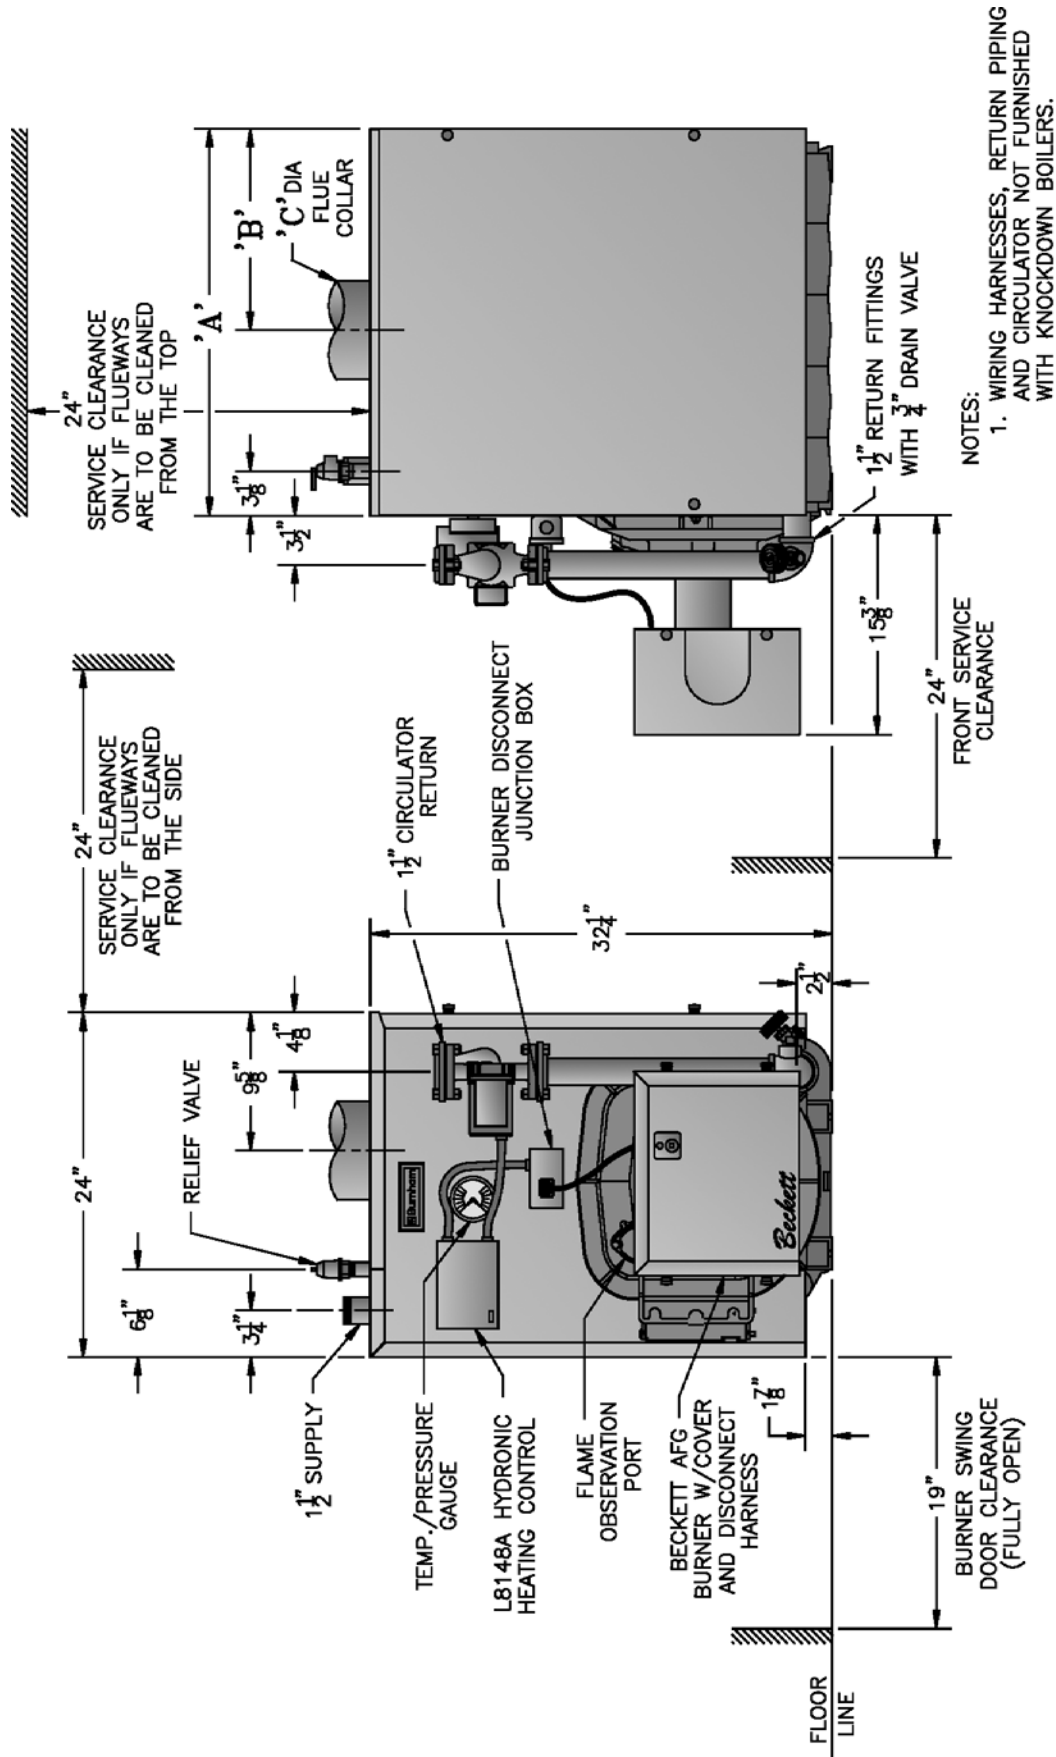

Figure 1A: V82 thru V89 Water Boiler without Tankless Heater
TABLE 1A: DIMENSIONAL DATA (SEE FIGURES 1A THRU 1D)
2. Any claims for damage or shortage in shipment must be filed immediately against the carrier by the consignee. No claims for variances from, or shortage in orders, will be allowed by the manufacturer unless presented within sixty (60) days after receipt of goods.
- B. LOCATE BOILER** in front of final position before removing crate. See Figures 1A thru 1D.